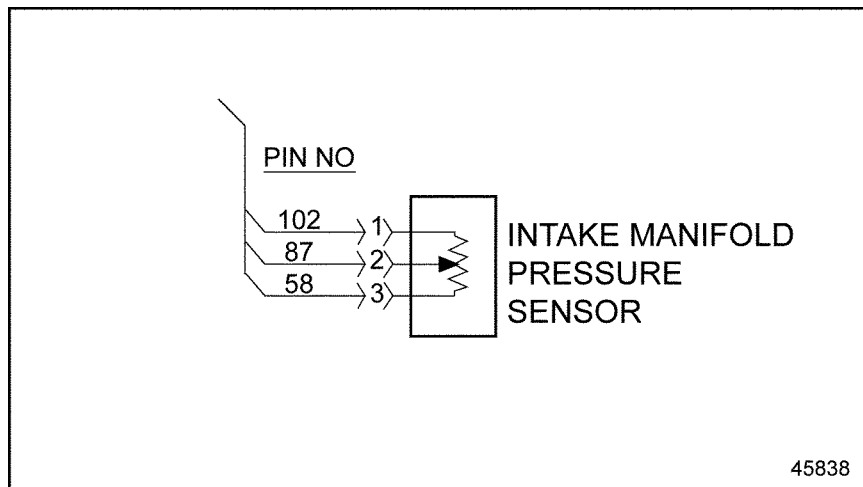

Figure 41-1 Intake Manifold Pressure Sensor
3. Measure the resistance between pin 2 and 3 of the IMP Sensor connector. See Figure 41-1.